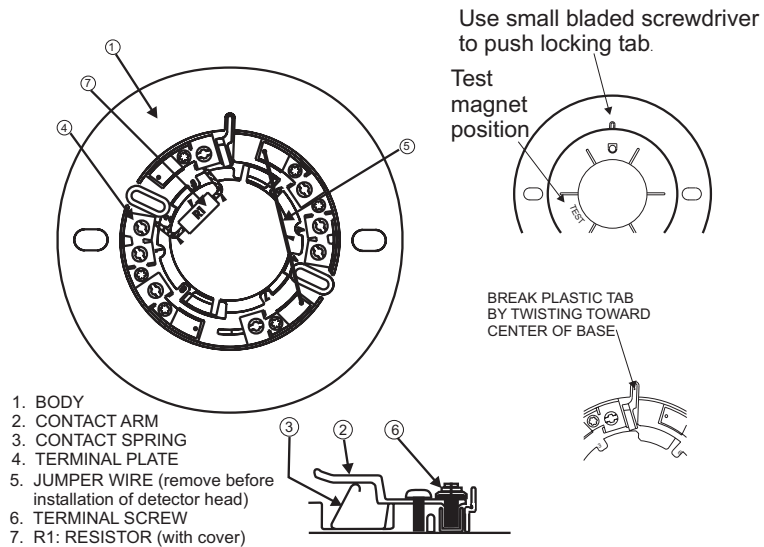

Figure 6. Detector Using 2-Wire Base (Less Options)
The detector bases include a locking feature that prevents removal of the detector without using a tool. To eliminate this feature, break off the locking tab shown in Figure 6, then install the detector. To remove the detector from the base once the locking feature has been activated, insert a small screwdriver into the slot on the base to push the plastic tab while simultaneously turning the detector head counterclockwise (see Figure 6).
4. Position the long axis of the test magnet against the side of the detector housing marked 'TEST' for at least 15 seconds (See Figure 6). The detector should alarm as indicated by steady illumination of the alarm indicator. To return each detector to normal operation, reset the control unit. OR